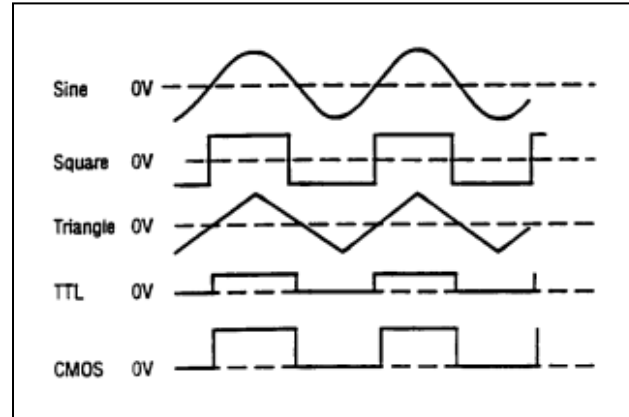

Figure 2. Output Waveform and Phase Relationship
- Initially, verify that the **DUTY CYCLE** (14), **CMOS LEVEL** (13), **DC OFFSET** (12), **-20dB** (11) switches are in the **OUT** position (released). This will produce a symmetrical waveform unaffected by the other controls.
- Plug the unit into an appropriate power source and turn it on by engaging the **POWER** switch (1).
- Select the desired waveform (**SINE**, **SQUARE**, or **TRIANGLE**) by engaging one of the **FUNCTION** switches (3). Phase relationships of the waveforms are shown in Fig. 2.
- Select the frequency of the waveform by engaging one of the **RANGE** switches (2).
- Rotate the **FREQUENCY** control (15) to set the output frequency to the desired value. The frequency selected is available at the **OUTPUT** jack (6). In addition, a digital signal, either **TTL** or **CMOS** is available at the **TTL/CMOS** jack (7) (refer to the "TTL/CMOS OUTPUT" section of this manual).